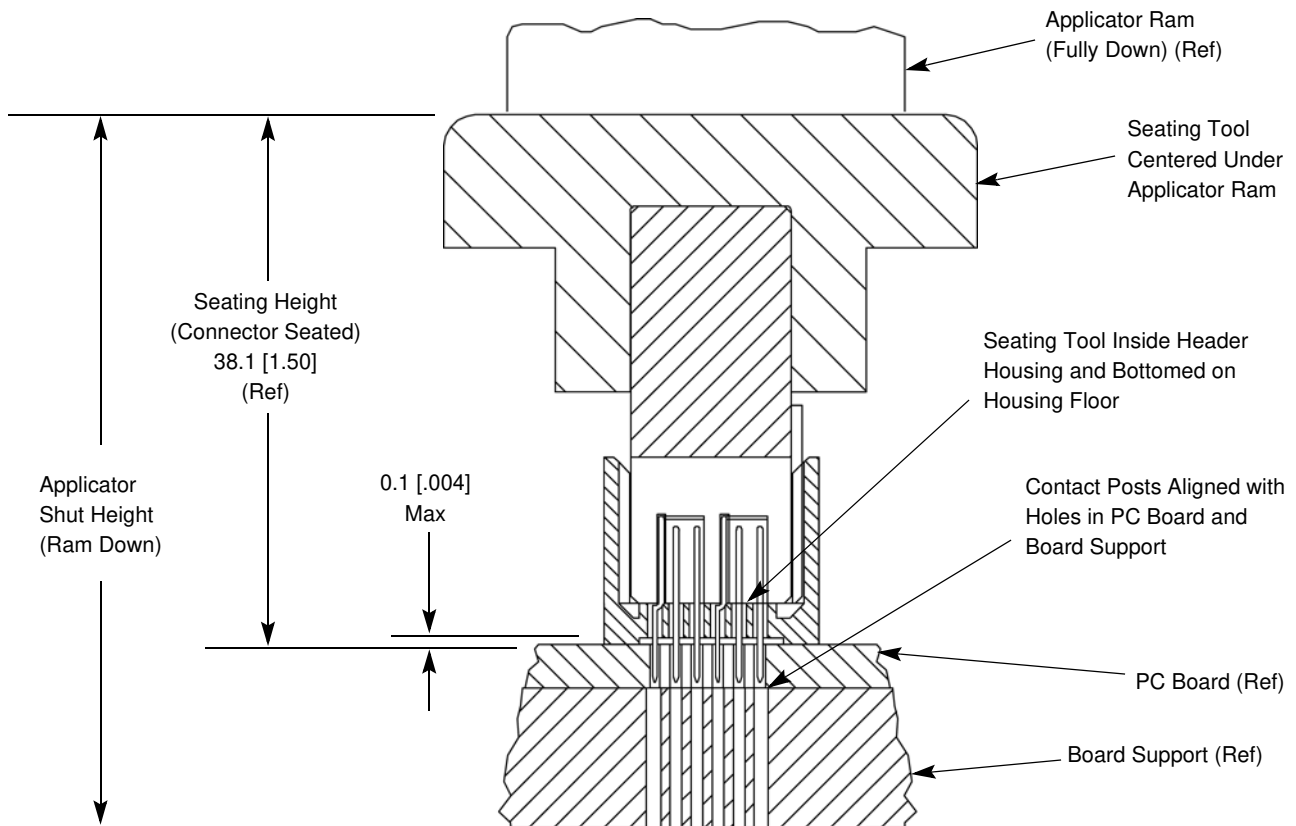

Figure 2
1. Set seating height to the dimension shown in Figure 2. (Applicator shut height will equal the seating height PLUS the combined thicknesses of the pc board and pc board support.)